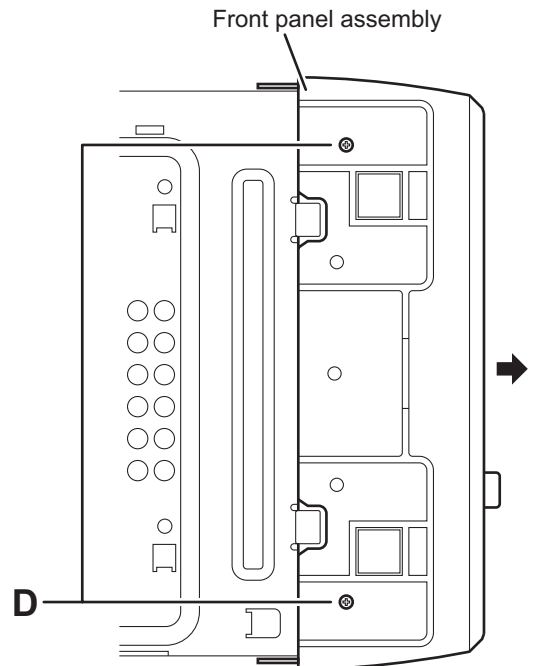

Fig.5
- (5) From the bottom side of the main body, remove the two screws **D** attaching the front panel assembly. (See Fig.5)